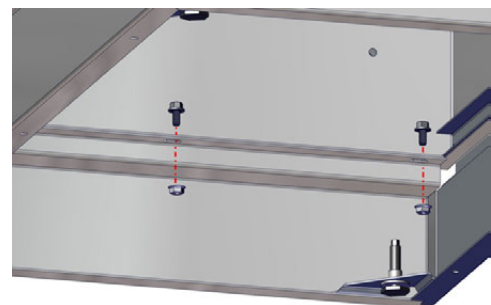

Fig. 9: Attach Base and Cabinet
6. Secure the cabinet to the base using the Locking Hex Bolts and Flanged Hex Nuts (provided) in the six holes on the sides of the base and cabinet (Fig. 9).